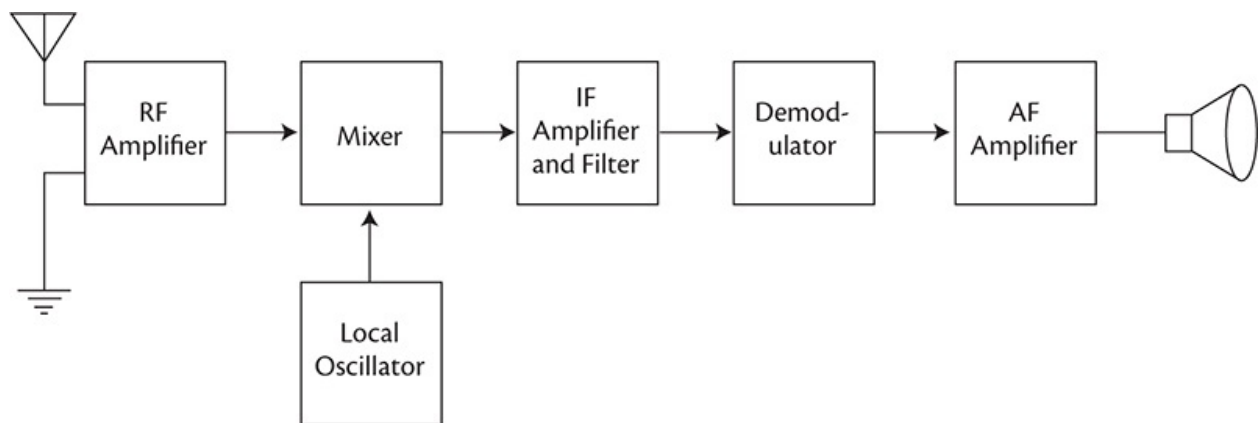

FIGURE 8-10 Superhet block diagram.
Until recently, virtually all radio receivers, including those in TVs, were of the same basic superheterodyne design (Figure 8-10). A radio-frequency (RF) amplifier increased the signals coming from the antenna. Then, those signals were mixed with a *local oscillator* that converted them to a different frequency from the one at which they were received so that they could be amplified without interfering with the signal coming in. As you tuned the radio, the local oscillator would track the tuned frequency, keeping the frequency difference between them constant. After the mixer, this resulted in a copy of the incoming signal at whatever that difference frequency was. The new frequency was passed through a series of tuned amplifiers to make the signals bigger while rejecting those on nearby frequencies—a phenomenon known as *selectivity*—and finally *demodulated* to extract the audio, data or video originally encoded on the radio signal. Though an analog process, the superhet technique could be used to receive both digital and analog information.